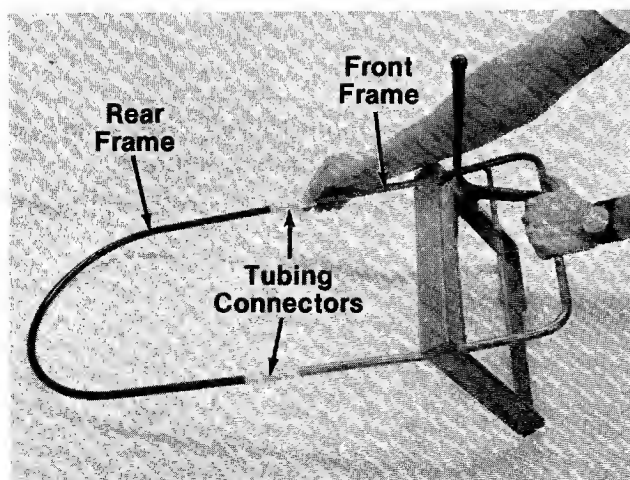

FIGURE 9.
1. Connect the front and the rear frames by pushing the tubing connectors onto the ends of the rear frame. See figure 9.